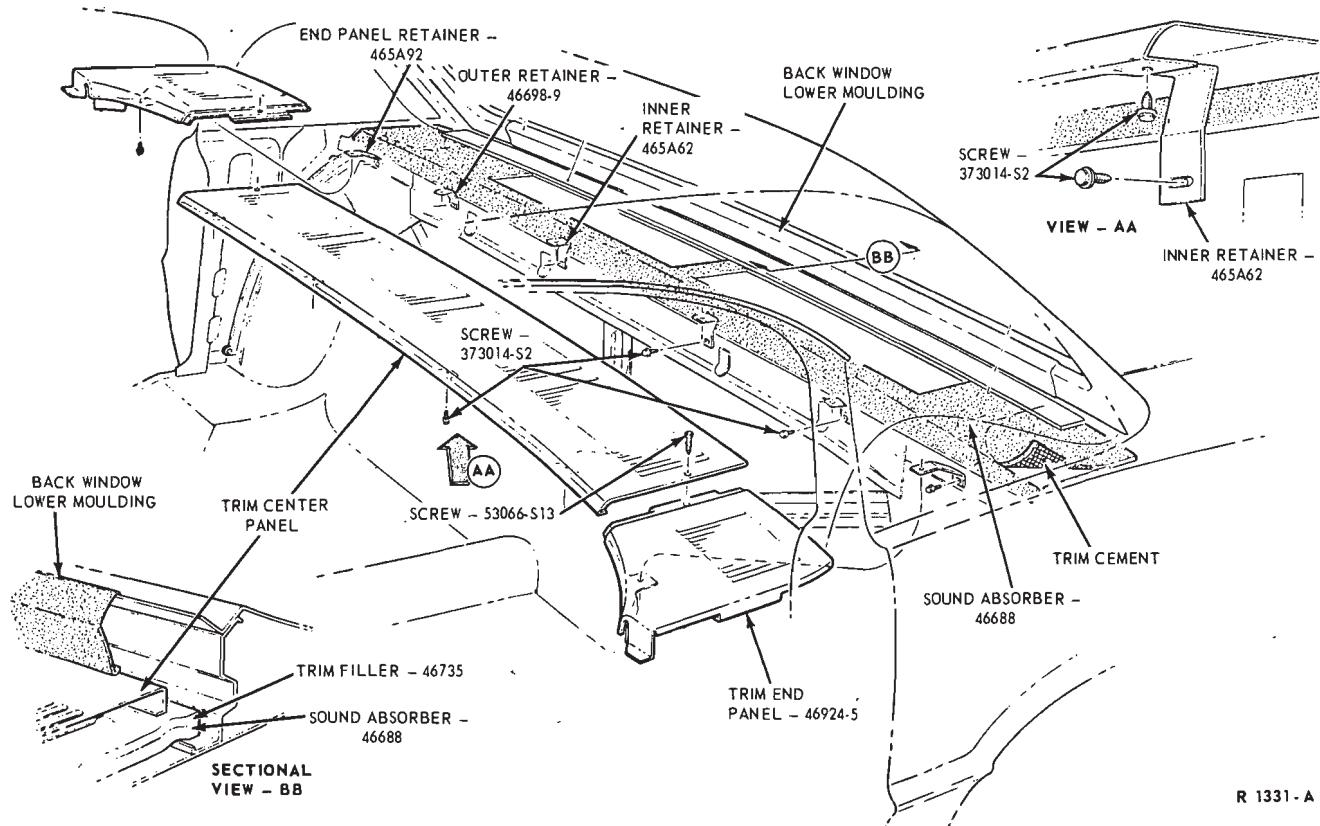

FIG. 15—Package Tray Trim Panels—Thunderbird 4-Door
2. Remove four screws attaching the trim center panel retainers to the package tray (Fig. 15).
5. Remove one trim end panel retainer attaching screw (Fig. 15) and remove the trim end panel.
1. Position the trim end panel to the vehicle and install the retainer attaching screw (Fig. 15).
5. Install the six retainer attaching screws (Fig. 15).